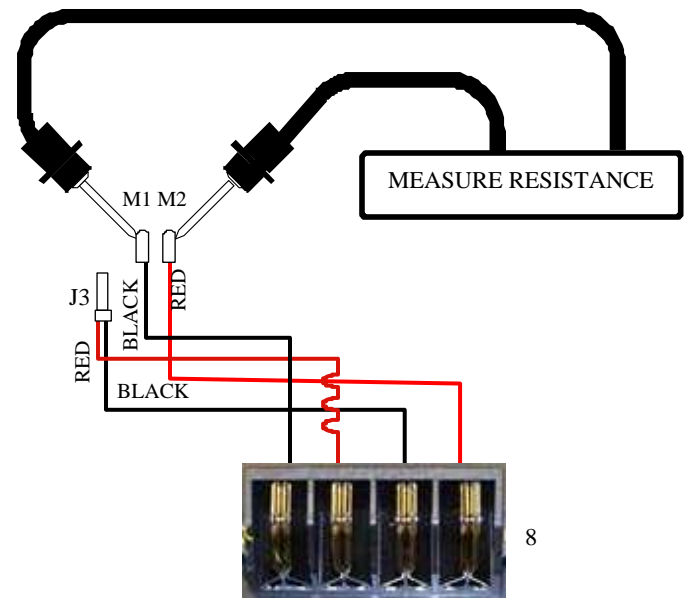

Figure 28. Connectors M1M2, J3, and 8
6. Measure resistance across the front intermediate harness (M1 and M2). **See figure 28.**